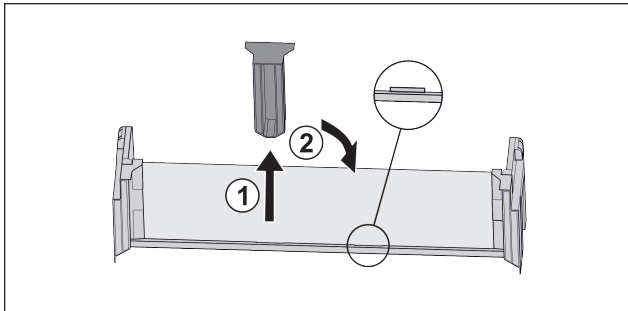

Fig. 114
- ▶ Pull off the middle holder Fig. 114 (1).
- ▶ Insert the middle holder in the second position Fig. 114 (2).